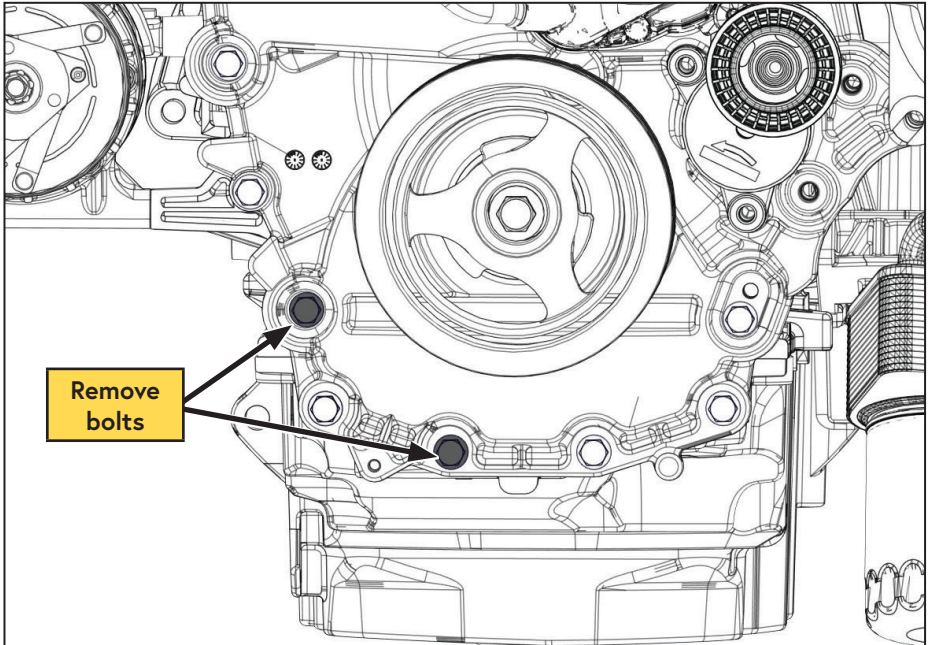

Figure 11 — Remove timing cover bolts
- Remove and discard the timing cover bolts (Figure 11).